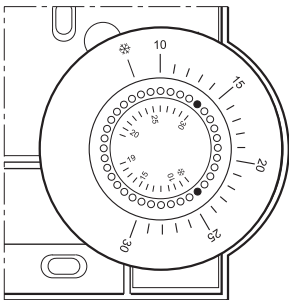

Fig. 16: Limiting the adjustment range
- ▶ Place the two small pins into the holes of the adjustment dial in order to limit the adjustment range (see Fig. 16). Orientate yourself on the basis of the inner scale: In Fig. 16, the pins are inserted so that the adjustment dial can only be adjusted in the range of 19 °C to frost protection \* (lower limit) and 19 °C to 30 °C (higher limit) around the value 19 °C.